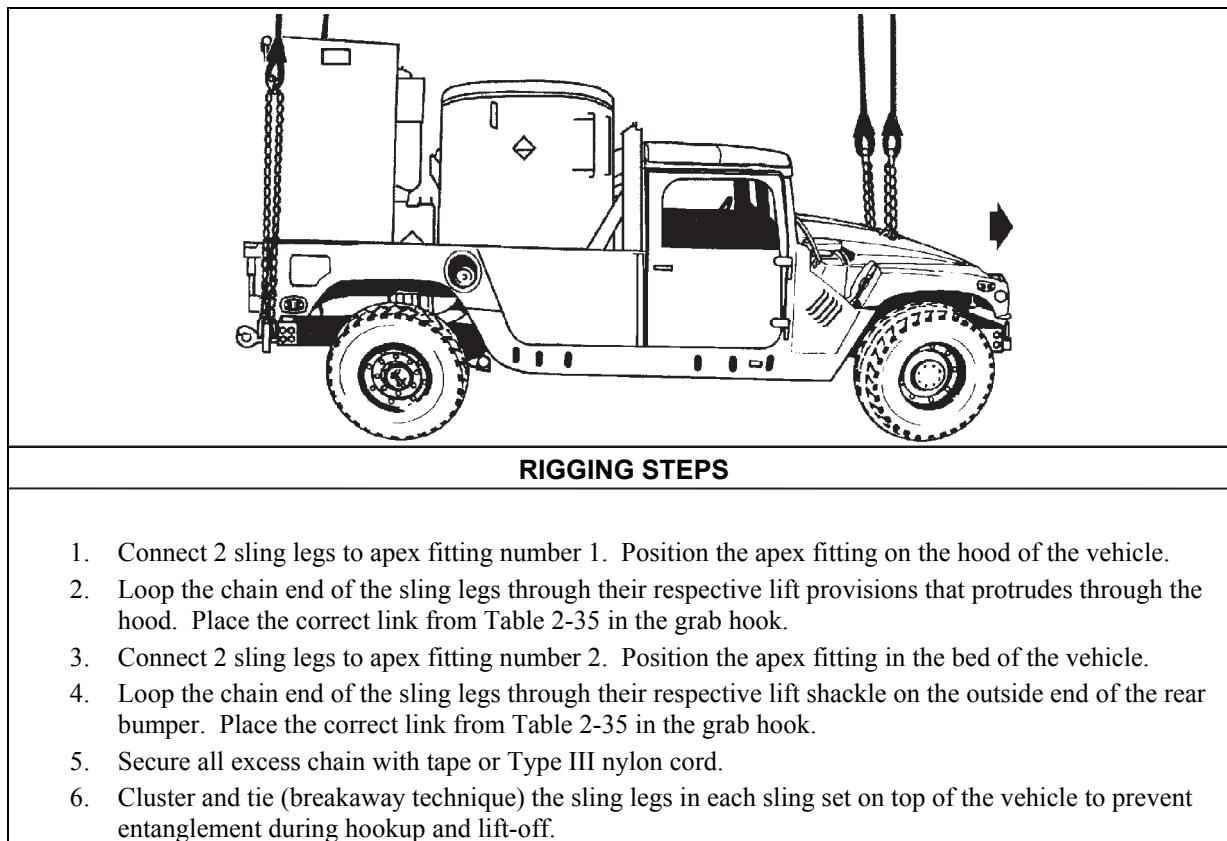

Figure 2-34. M1097 with AN/TPQ-42, Meteorological Hydrogen Generator
- **Rigging.** Rig the load according to the steps in Figure 2-34.